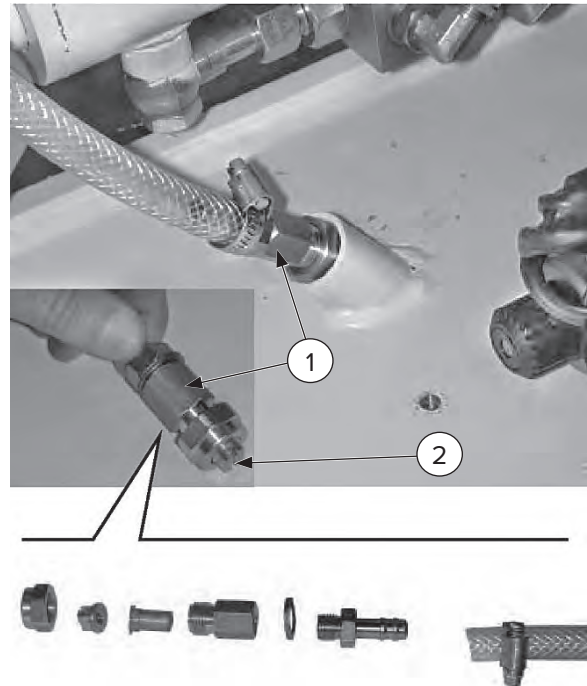

Figure 21
1. Check the water nozzles [Figure 21, Item 1] located on the equipment and clean them if necessary.